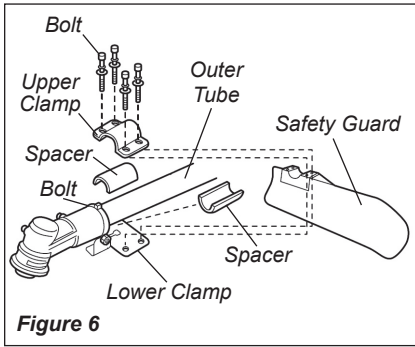

Figure 6
1. Insert the safety guard between the outer tube and the lower clamp. See Figure 6.
2. Fit the two spacers and the upper clamp over the outer tube and loosely install the four bolts. See Figure 6.